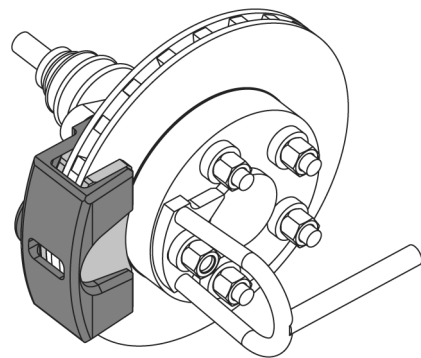

Fig. 66
13. Install the brake pads and brake calipers according to the repair manual, Fig. 66.